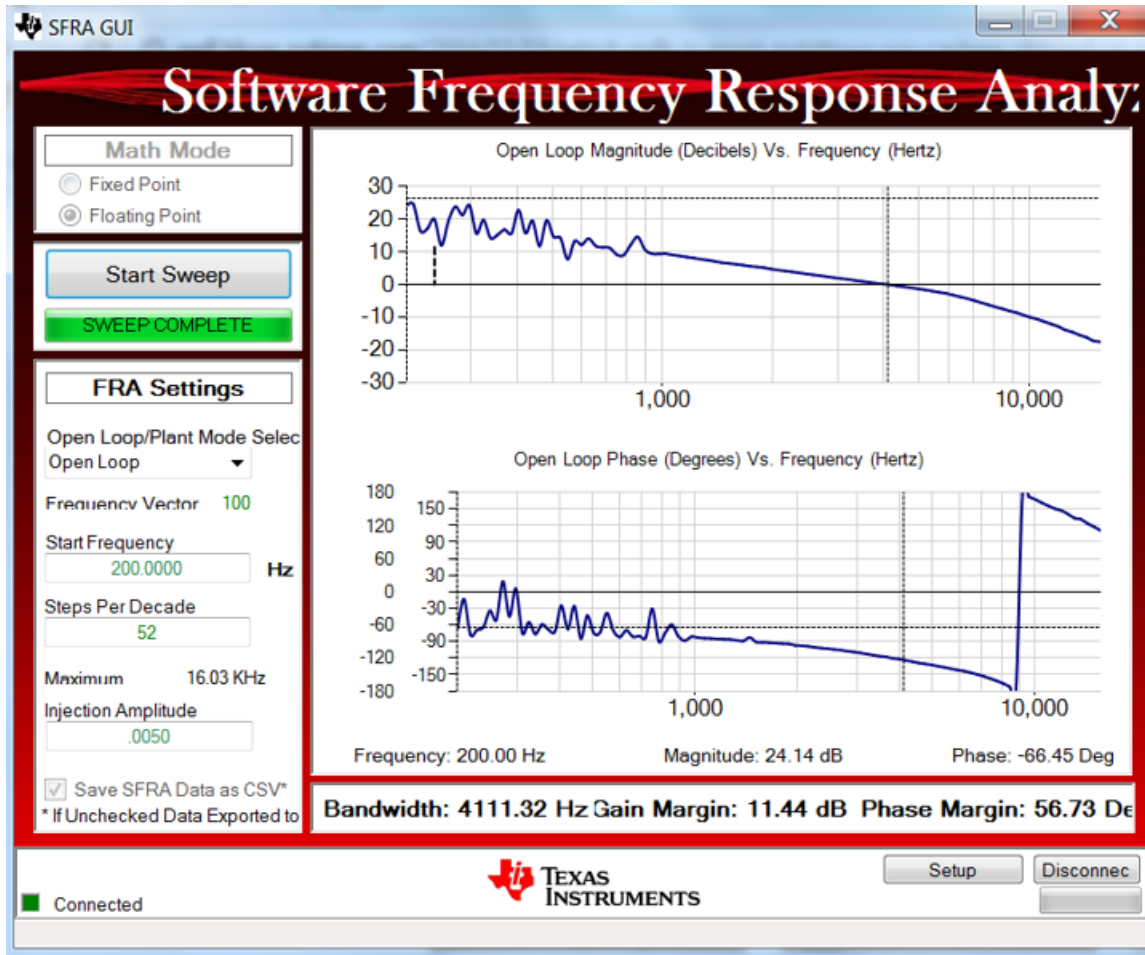

Figure 33. SFRA Run on Closed Current Loop
- The SFRA GUI will connect to the device. A SFRA sweep can now be started by clicking *Start Sweep*. The complete SFRA sweep will take a few minutes to finish. Activity can be monitored by seeing the progress bar on the SFRA GUI and also checking the flashing of blue LED on the back on the control card that indicates UART activity. Once complete, a graph with the open loop plot will appear, as in Figure 33. This verifies that the designed compensator is indeed stable.